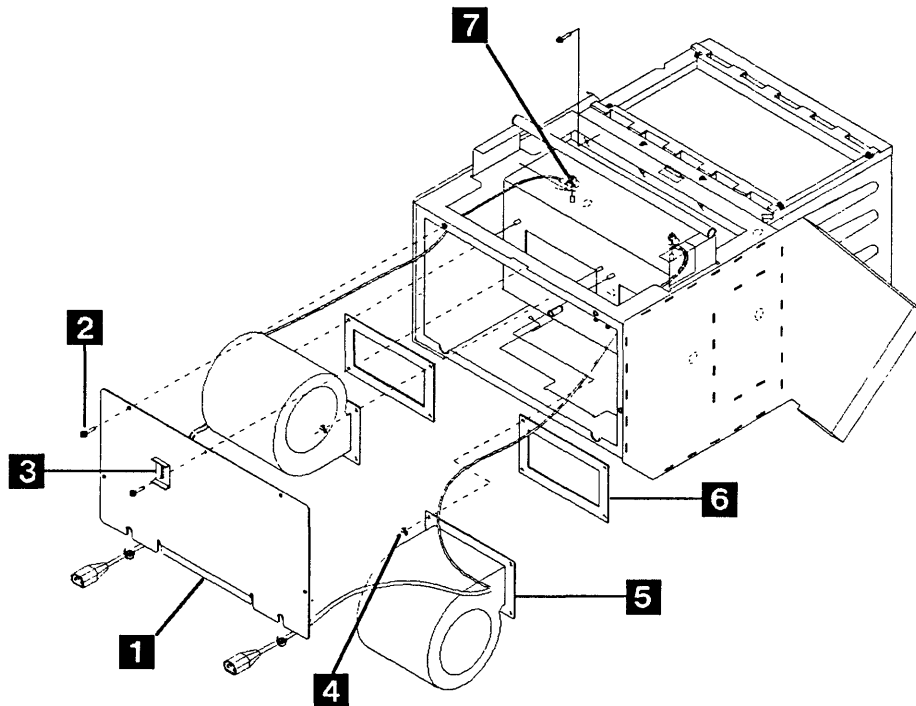

Figure 5-82. Air Moving Devices Removal
3. Refer to Figure 5-82. Remove the screw which maintains the bracket **3**. You can now remove the upper filter by sliding it down.